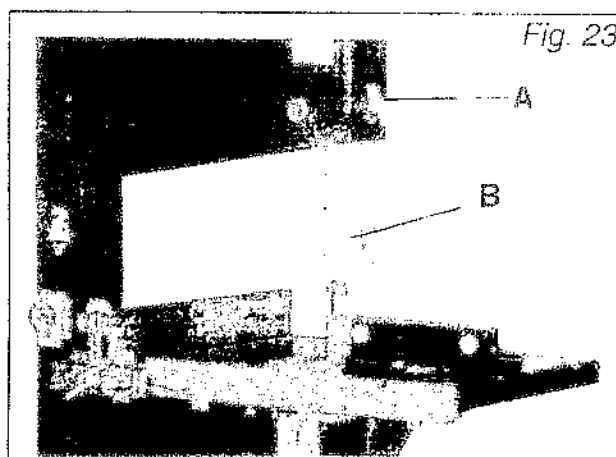

Fig. 23
To adjust the cutting height release the winged nut (A) *Fig. 23* and move the upper blade guide and guard assembly (B) *Fig. 23* so that it provides approx 2 - 3mm clearance above the workpiece.